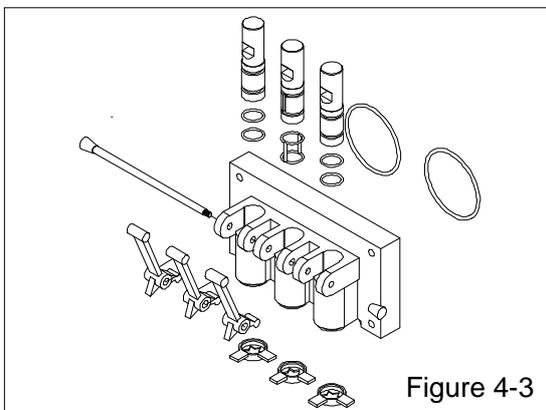

Figure 4-3
- F. Install the dispensing door on the freezer (Figure 4-3, 4-4).